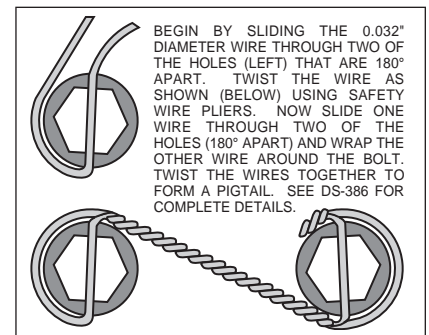

Figure 7. Safety Wire Diagram
- With the larger I.D. side of the rotor (4) facing away from the hat (3), bolt rotor (4) to hat (3) through the backside of the rotor using washers (5) and bolts (6). Using an alternating sequence, apply red *Loctite*® 271 to the threads and torque bolts to 155 **in-lb**. For an added measure of security, the bolts may be safety wired using standard 0.032 inch diameter stainless steel safety wire as shown in Figure 7. Please refer to Wilwood's data sheet DS-386 (available at www.wilwood.com/Pdf/DataSheets/ds386.pdf) for complete safety wire installation instructions.